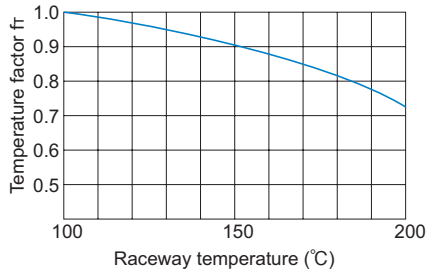

Fig.3 Temperature Factor (f_T)
- f_T : Temperature factor (see Fig.3 on A-557)
If the temperature of the environment surrounding the operating model ST exceeds 100°C, take into account the adverse effect of the high temperature and multiply the basic load ratings by the temperature factor indicated in Fig.3.